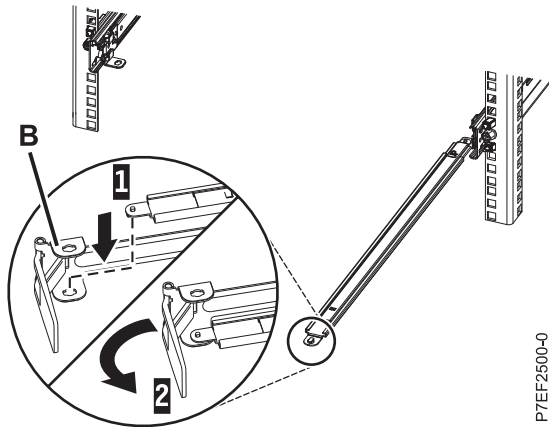

Figure 11. Securing the cable-management stop bracket to the support arm
- Locate the hole at the bottom inside corner of the L-shaped cable-management stop bracket (B). Position the unattached end of the support arm so that the locking tab on the underside of its tip aligns with the bracket hole. Insert the tab into the hole (1) and turn the bracket (2) to secure it to the support arm. For details, see Figure 11 on page 9.